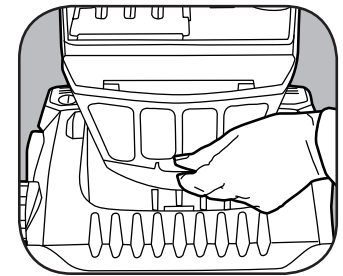

Fig. 2
1. Unplug the vacuum cleaner. Remove the filter cover below the dust compartment cover (Fig. 2).